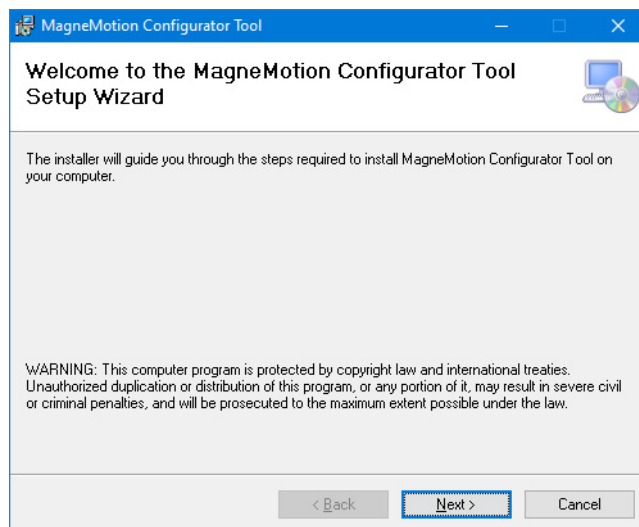

Figure 2-1: MagneMotion Configurator Tool Installer
*The **MagneMotion Configurator Tool** setup wizard is opened, see Figure 2-1. If Microsoft .NET 4.0 is not installed on the computer where the MagneMotion Configurator is being installed an alert is displayed instead.*